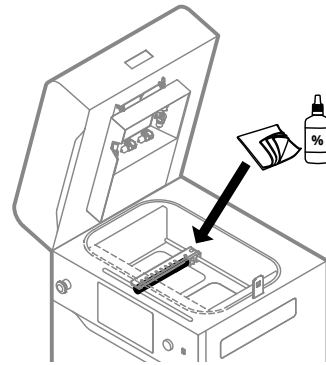

Fig. 13.96 Use the cloth and ethyl alcohol to clean the Recoater roller, while it is above the Feed Bed.
12. Wipe the Recoater roller with dry cloth to remove the powder (fig. 13.96).
13. Next, wipe the Recoater roller using cloth soaked in ethyl alcohol (fig. 13.96). Press **DONE**.